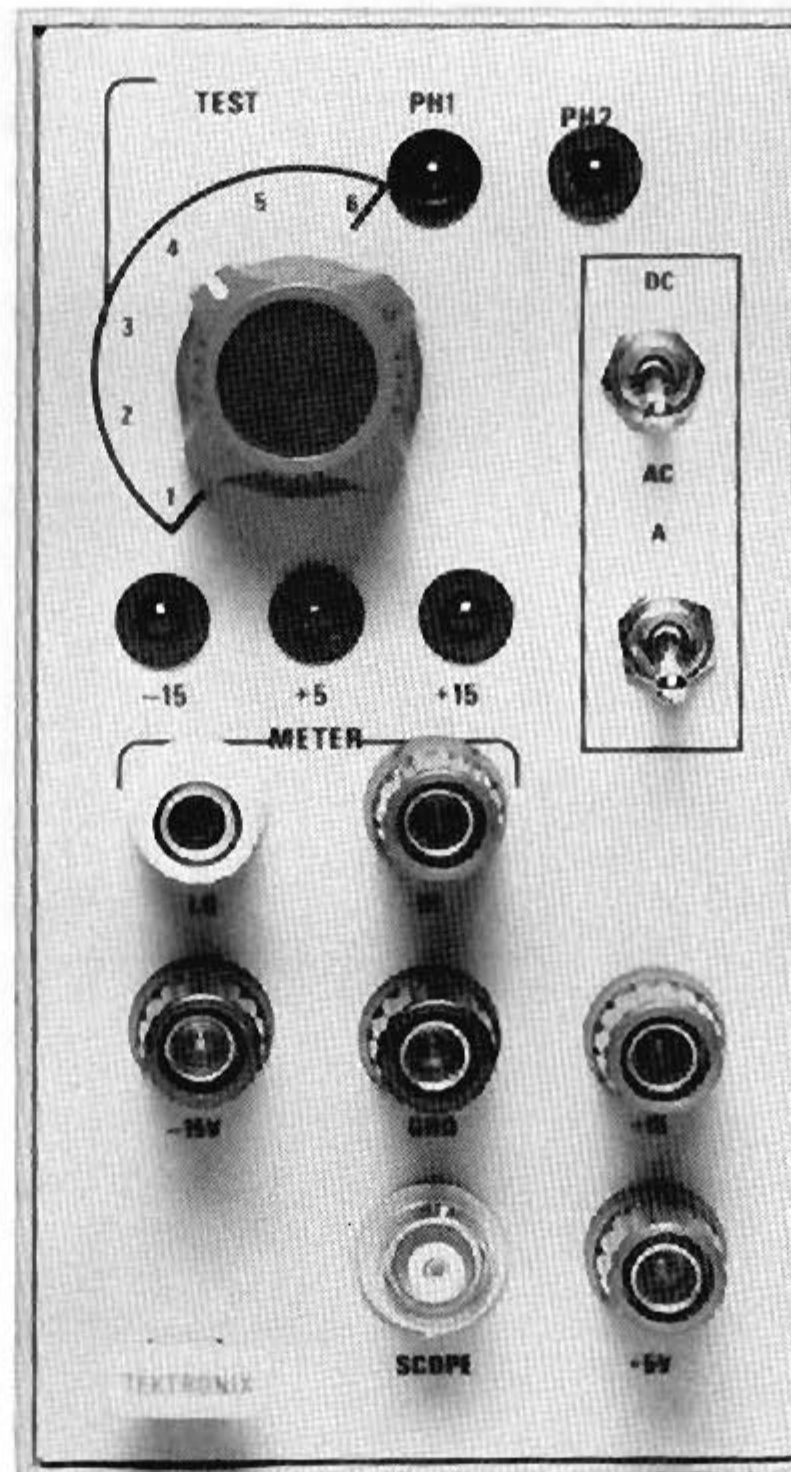

Figure 2
4. A suggested front panel layout is shown in Figure 2.